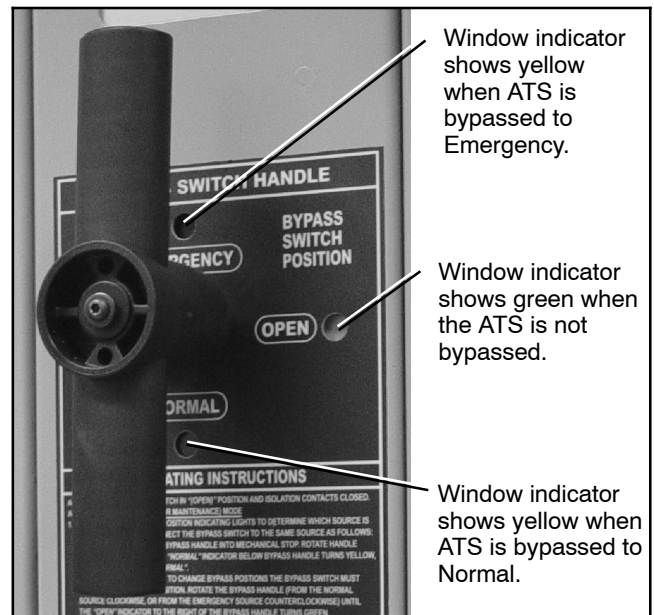
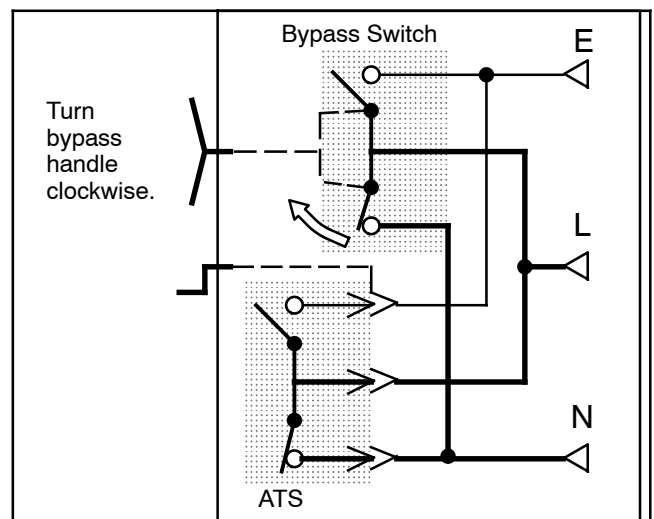

Figure 7-26 Bypass Handle and Position Indicators
Figure 7-27 Opening Bypass to Normal
This procedure explains how to return the bypass switch handle to the OPEN position. The bypass handle must be in the CLOSED position (yellow indicator on NORMAL or EMERGENCY) and the isolation handle must be in the CONN position (window). See Figure 7-26, Figure 7-27, and Figure 7-28.
1. Observe which bypass switch position indicator is yellow (NORMAL or EMERGENCY) at the bypass switch handle. This indicates the source connected to the load. See Figure 7-26.
Turn the bypass handle clockwise until the bypass switch position shows OPEN (green window indicator). See Figure 7-26. The Bypassed to Normal light should go off and the Not In Automatic light should go off. The automatic transfer and bypass/isolation switch should be left in this position.
Turn the bypass handle counterclockwise until the bypass switch position shows OPEN (green window indicator). See Figure 7-26. The Bypassed to Emergency light should go off and the Not In Automatic light should go off. The automatic transfer and bypass/isolation switch should be left in this position.